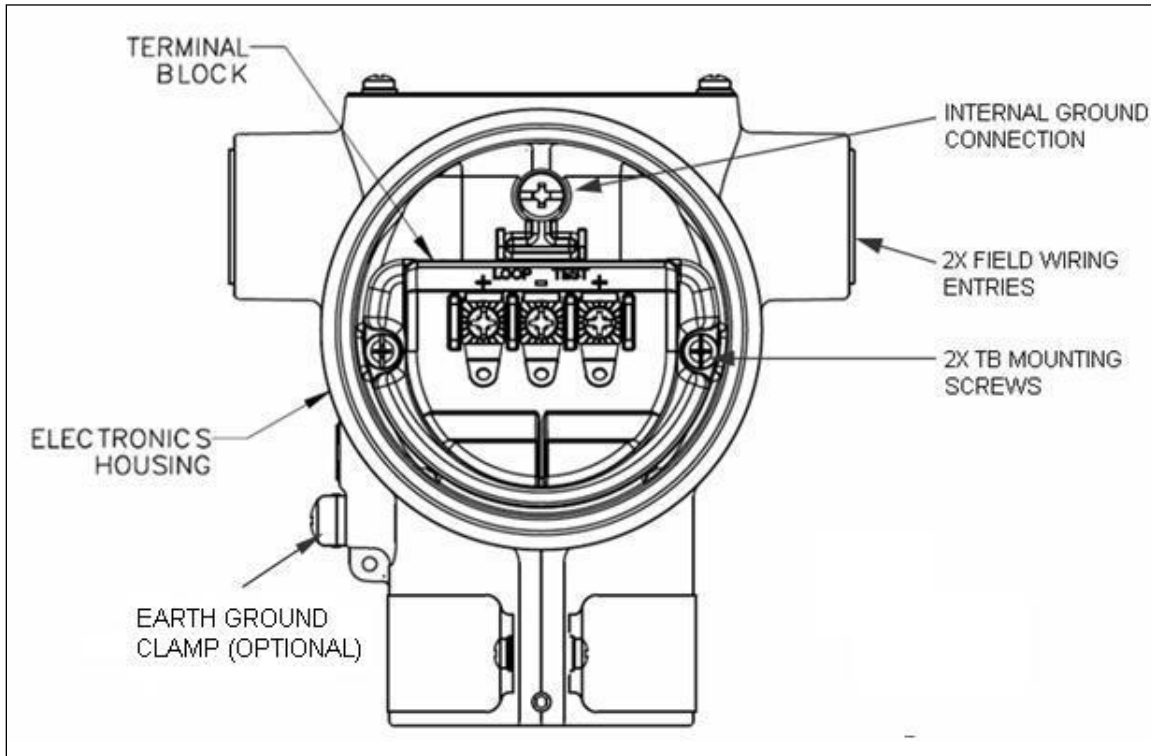

Figure 15 – ST 700 Standard Transmitter - 3-Screw Terminal Board and Grounding Screw
Loop wiring is connected to the transmitter by simply attaching the positive (+) and negative (-) loop wires to the positive (+) and negative (-) terminals on the transmitter terminal block in the electronics housing shown in Figure 15.
As shown in Figure 15, each transmitter has an internal terminal to connect it to earth ground. Optionally, a ground terminal can be added to the outside of the electronics housing. While it is not necessary to ground the transmitter for proper operation, doing so tends to minimize the possible effects of noise on the output signal and affords protection against lightning and static discharge. An optional lightning terminal block can be installed in place of the non-lightning terminal block for transmitters that will be installed in an area that is highly susceptible to lightning strikes.
1. See Figure 15, above, for parts locations. Loosen the end cap lock using a 1.5mm Allen wrench.
If your transmitter includes the optional lightning protection, connect a wire from the Earth Ground Clamp (see Figure 15) to Earth Ground to make the protection effective. Use a size 8 AWG or (8.37mm²) bare or green covered wire for this connection.